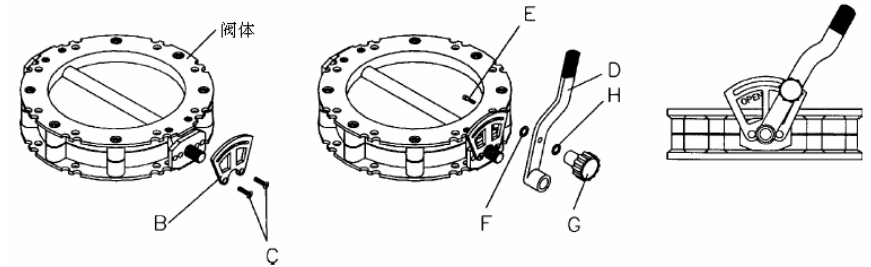

Fig.2
Put the valve on a level surface. Remove the protection from disc shaft. Assemble lever setting mask (B) using the two socket screws (C) with the large side pointing upwards as shown in (fig.2)